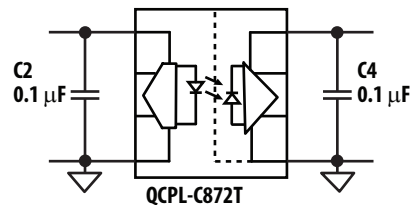

Fig 29. Bypass Capacitors C2, C4
0.1  $\mu$ F bypass capacitor must be connected as near as possible between  $V_{DD1}$  to  $GND1$  and  $V_{DD2}$  to  $GND2$  (Figure 29).